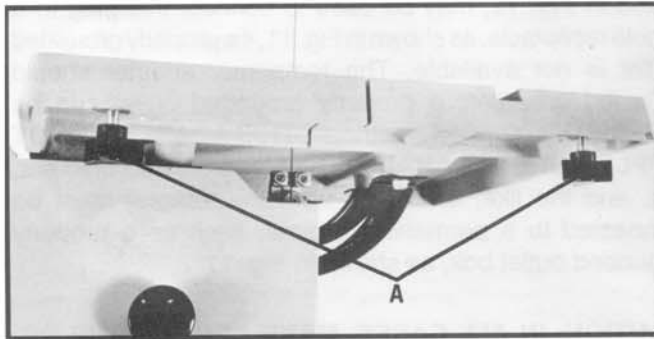

Fig. 7
1. Thread clamp knobs (A) Fig. 7, into tapped holes in underside of saw table.